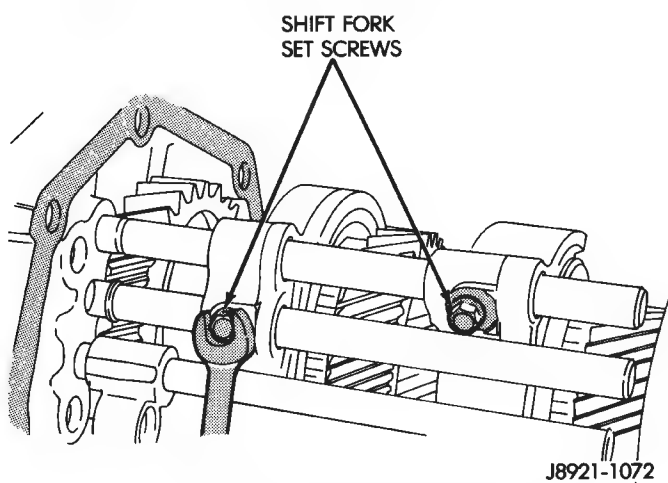

Fig. 43 Shift Fork Set Screw Removal
- (3) Remove shift fork set screws (Fig. 43).